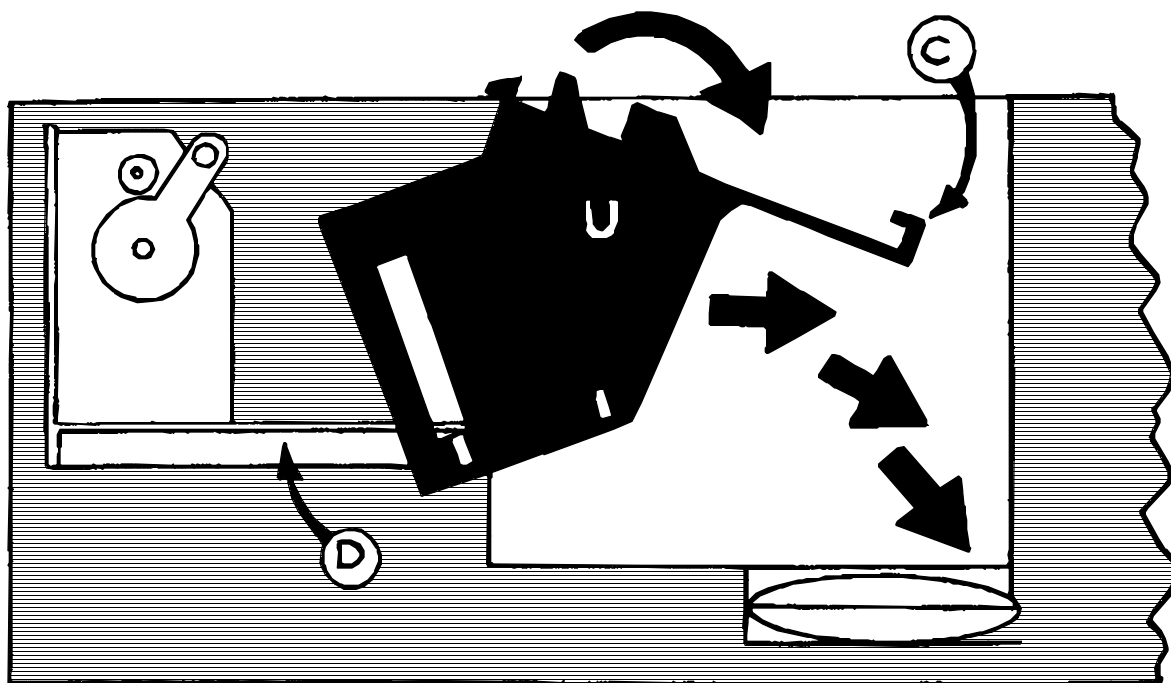

Figure 4-25 Freeing Carrier
16.4 Continue sliding Carrier to the right, then tilt the front of the Carrier "C" (part closest to the lens) downward toward the lens to free it from channels "D". (Fig. 4-25)